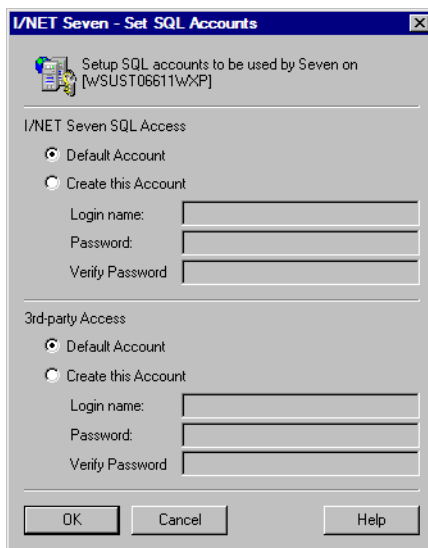

Figure 4-4. Set SQL Accounts
4. As the database is being created, you are prompted to assign a login name and password to the accounts used for TAC I/NET Seven SQL access and for 3rd-party access (see Figure 4-4).